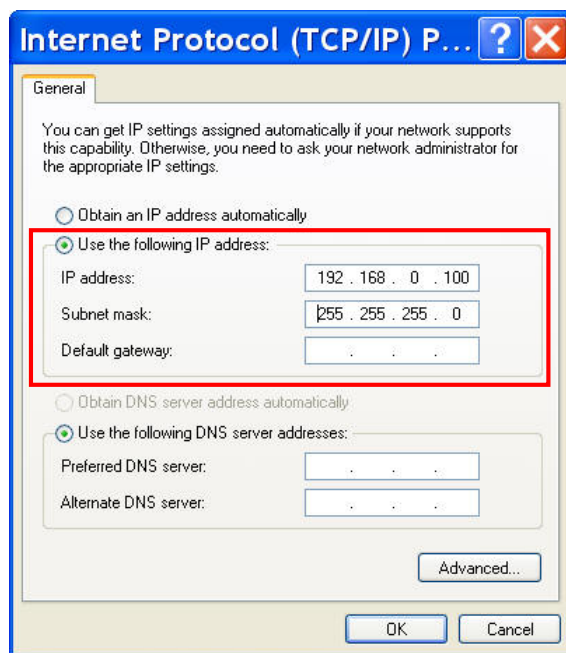

Figure 50: Internet Protocol
5. Click the *Properties* button. The *Internet Protocol* dialog box opens. Refer to Figure 50 for the steps below: